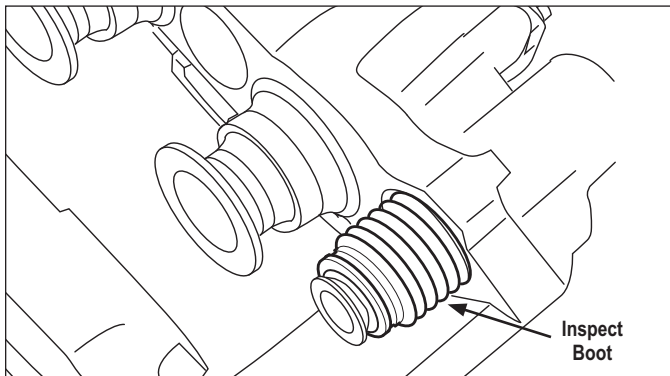

FIGURE 28 - GUIDE PIN BOOT INSPECTION (THIS IMAGE DOES NOT SHOW THE CARRIER)
- 4.5.4 See Figures 28 and 29. With the pads removed, slide the carrier by hand to the inboard position (See Figure 28). By looking through the opening where the pads are installed — and also from below — inspect the inner boot (9) for each of the guide pins. **INSPECT FOR DAMAGE, CUTS AND CRACKS.** Replace damaged boots immediately to prevent dirt and/or moisture affecting the movement of the guide pins (See Section 5.4). Damaged or corroded guide pins will impair the operation of the brake.